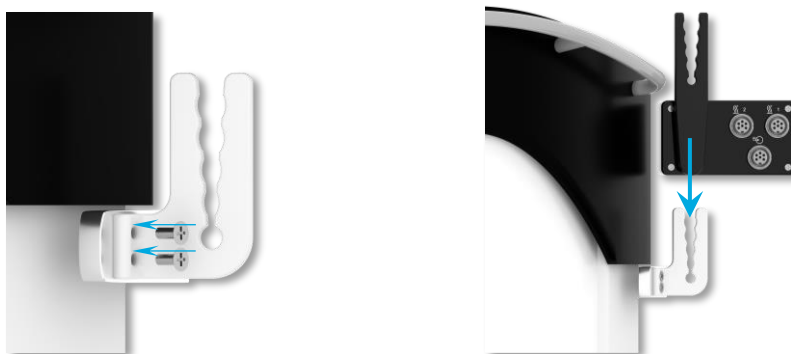

Figure 5:
1. Mount the hose holder with the opening facing upwards, on the left side (top view), on the Vacusat® power (*Figure 5*)
2. Hook the Thermia Pro Console into the hose holder (*Figure 5*).